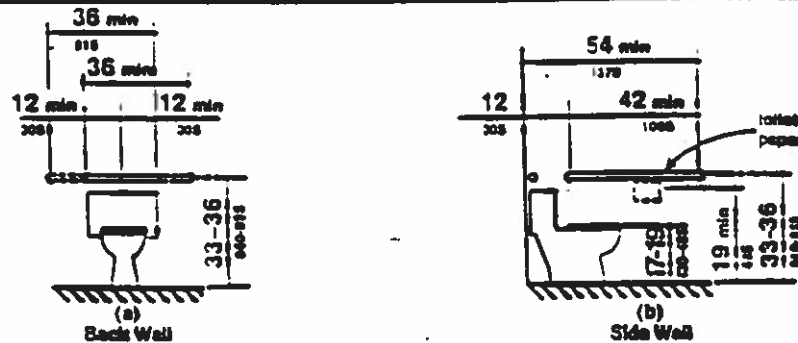

Fig. 29
**4.16.8 Dispensers.** Toilet paper dispensers shall be installed within reach, as shown in Fig. 29(b). Dispensers that control delivery, or that do not permit continuous paper flow, shall not be used.